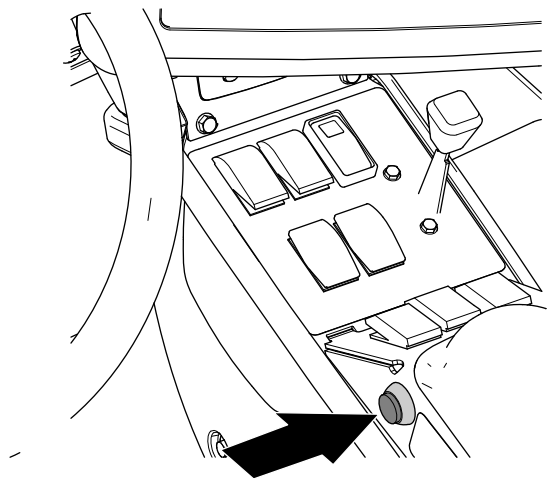

Figure 199
7. On the machine, press the master-section switch to the ON position (Figure 199).